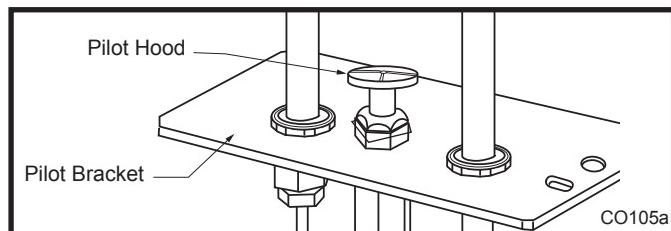

Fig. 80 Remove pilot hood.
- Remove pilot hood by lifting up. (Fig. 80)